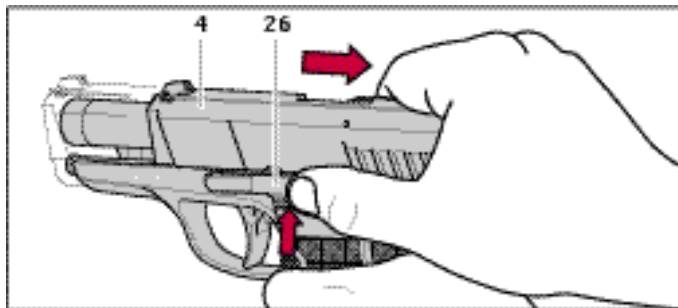

Fig. 8
- ▲ Grasp slide 4 with your hand (fig. 8) not your fingers.
3. Draw back the slide 4 to stop and hold it in the opened position by pressing up the slide catch lever 26 (Fig. 8).